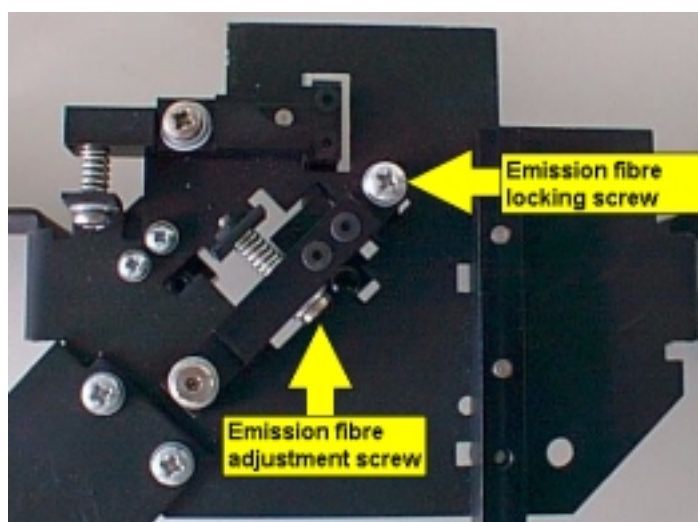

Figure 71 Emission fibre screws
21. Loosen the emission fibre locking screw, as shown in Figure 71.